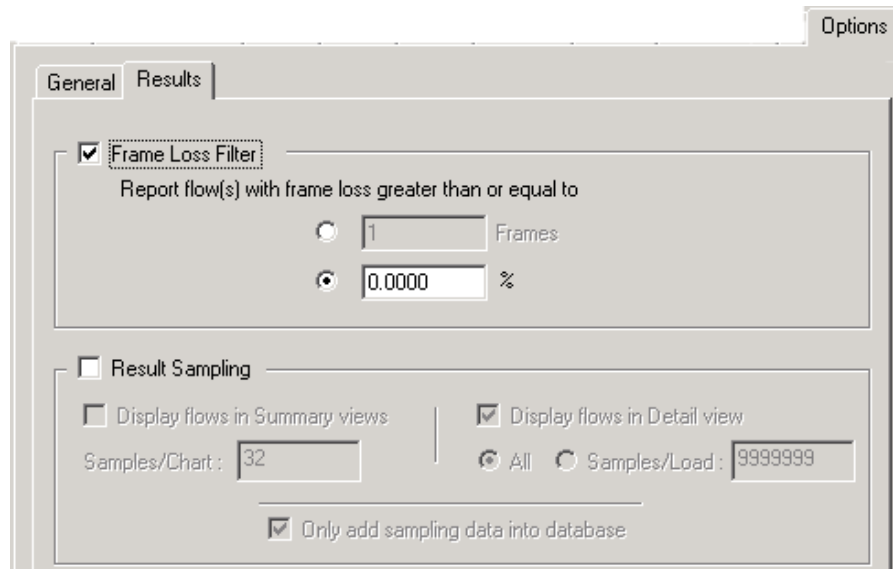

Figure 8-39. Global Results Preferences on the Options Results Tab
- *Results* tab (Figure 8-39 on page 291)
Specify application preferences on the *Options>Results* tab of the main window, as shown in *Figure 8-39 on page 291*.